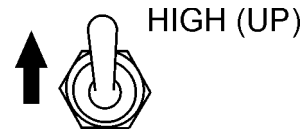

Figure 54. Engine Speed Switch (High)
2. Place the **engine speed switch** (Figure 54) in the **HIGH** position